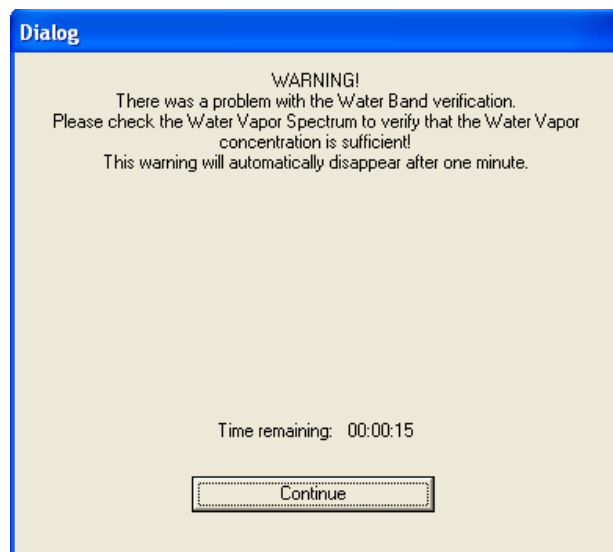

Figure 21: Warning Message regarding the Water Vapor Concentration
- If the warning message shown in figure 21 appears, it is highly recommended to check whether the current water vapor spectrum (with the following file name, for example: *PQ_Tensor_37_External_Port_D316-025_Hyperion_WnAccuracy.x*) is OK. You will find the spectrum in the following directory: